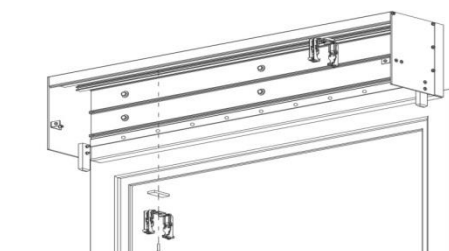

Fig. 17
5. Install head rail brackets in the under-plaster cassette – Fig. 17.